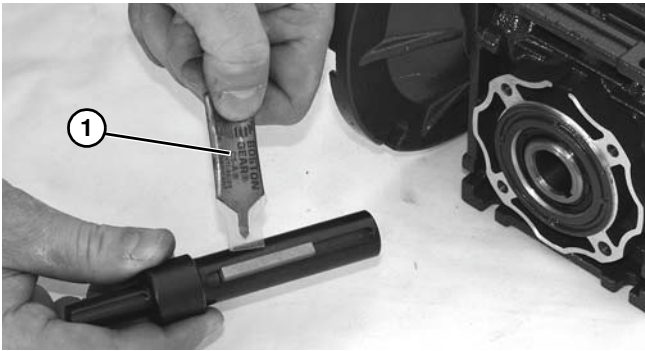

Figure 22
10. Apply anti-seize (Figure 22, item 1) to shaft.